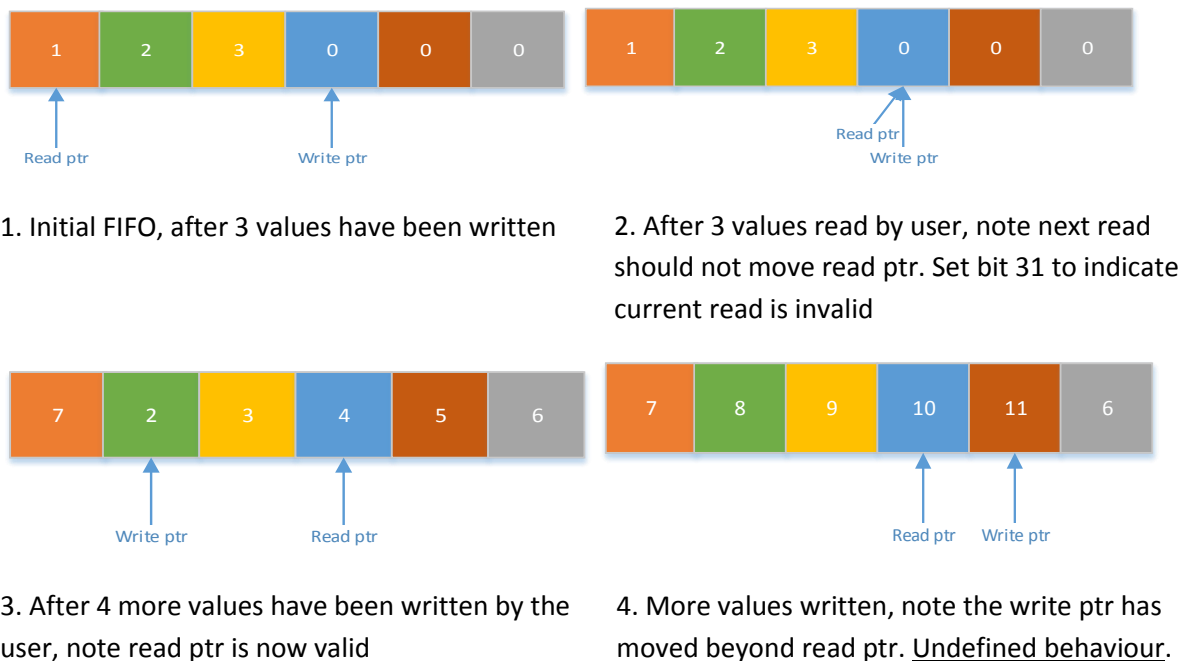

Figure 6.3: Run through of FIFO behaviour
- Similarly reading beyond data in the FIFO should not cause a loss of ‘place’ the user is up to in the FIFO. For a detailed walkthrough on the operation of the FIFO see Figure 6.3.